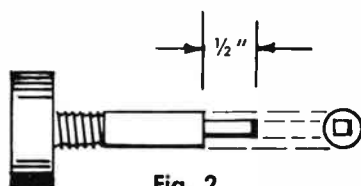

Fig. 2
2. An easier method if the knob is not worn out is to simply file the end of the shaft of the new control to a square cross-section, 1/4" on the diagonal, for about 1/2" as shown in Fig. 2 above.